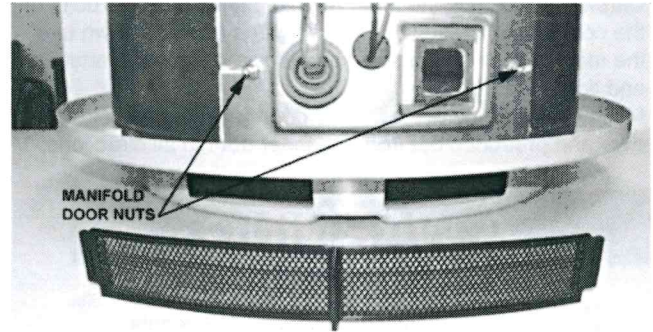

Figure 10
5. Remove the 3/8" manifold door nuts, holding the inner door and white gasket in place, see Figure 10.